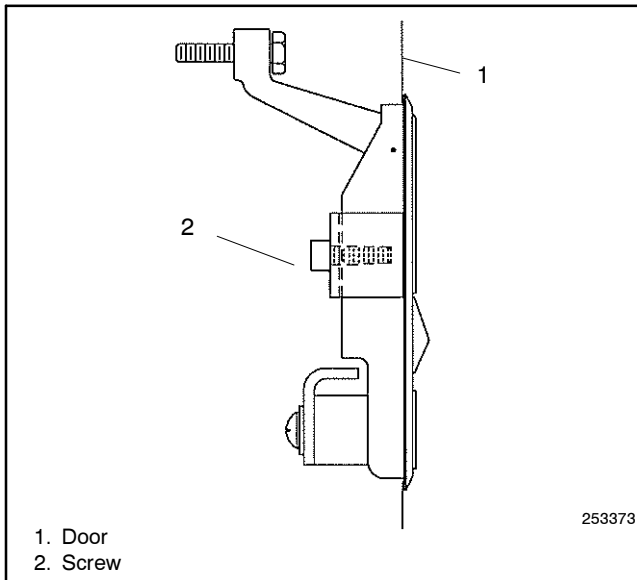

Figure 2 Door Latch
13. Install latch (253373) in each door. See Figure 2.